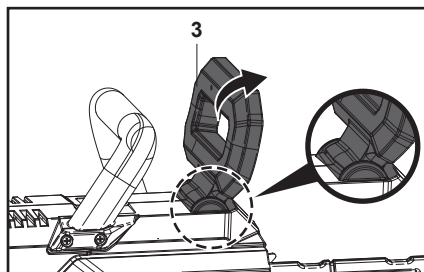

Fig. 17: Engage the chain brake
**Engage the chain brake:** When the chain brake lever (3) is in the engaged position, the saw chain is stopped as soon as the chain brake is activated (Fig. 17).